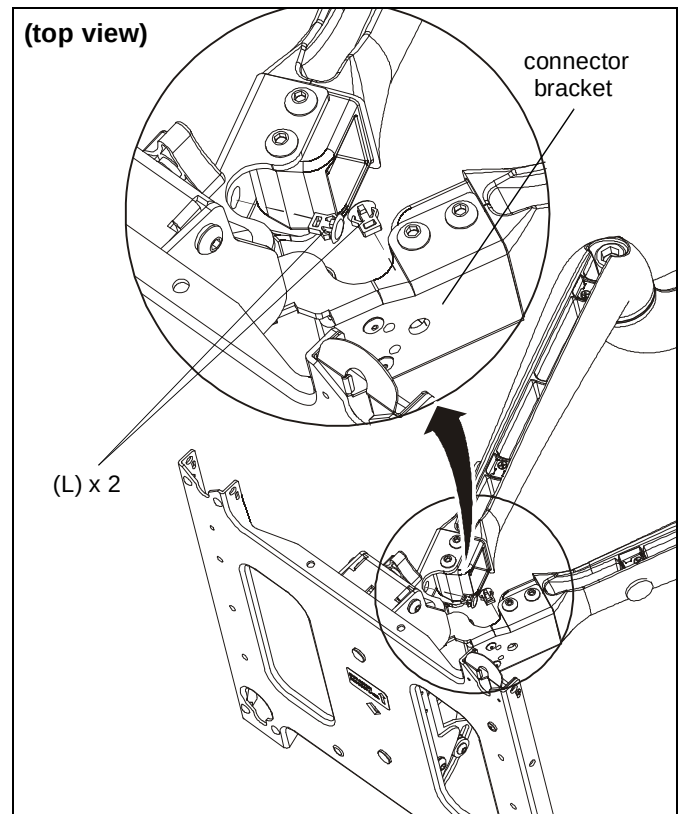

Figure 8
6. (Optional) Install two cable clips (L) into holes on connector bracket. (See Figure 8)